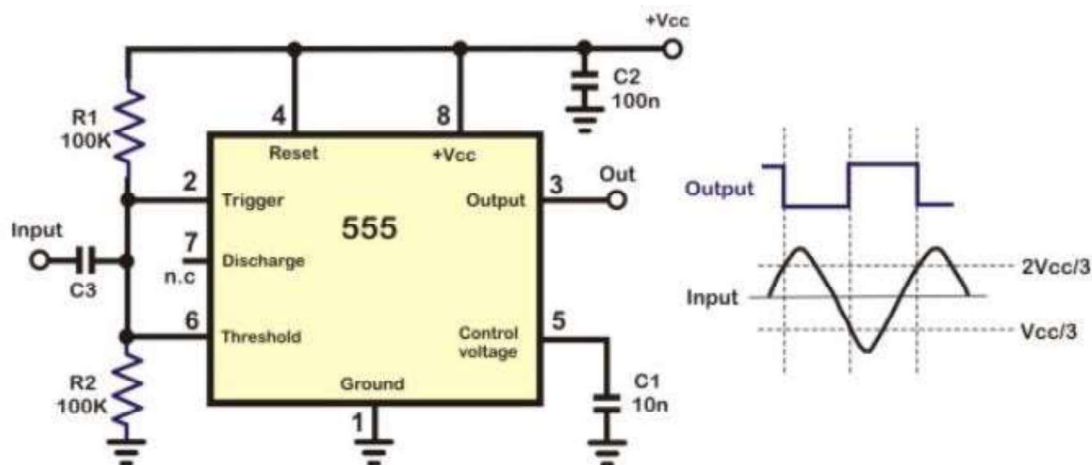

Fig. 1
In Fig. 1 Pins 4 and 8 are connected to the supply ( $V_{cc}$ ). The pins 2 and 6 are tied together and the input is given to this common point through a capacitor C. this common point is
RC phase-shift oscillators use resistor-capacitor (RC) network (Figure 1) to provide the phase-shift required by the feedback signal. RC phase-shift oscillator is formed by cascading three RC phase-shift networks, each offering a phase-shift of 60°, as shown by Figure 1. Here the collector resistor RC limits the collector current of the transistor, resistors R1 and R (nearest to the transistor) form the voltage divider network while the emitter resistor RE improves the stability. Next, the capacitors CE and Co are the emitter by-pass capacitor and the output DC decoupling capacitor, respectively. Further, the circuit also shows three RC networks employed in the feedback path.